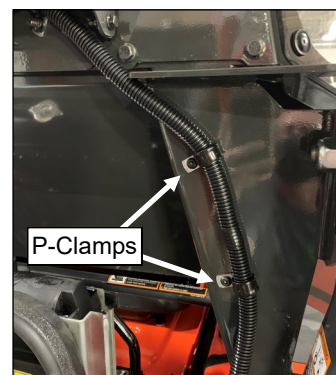

Fig. 7.1 (P-Clamp Wire Harness to ROPS Bracket)
- 7.1 See fig. 7.1. Cut the cable ties securing the wiring harness and attach the harness to the lower ROPS brackets with p-clamps as shown.